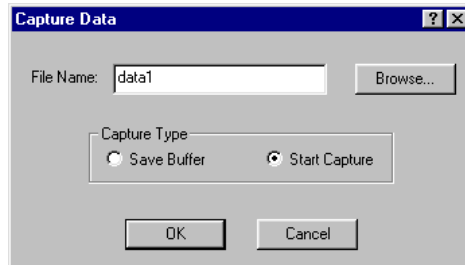

Figure 5-24. Capture Data to a File
1. Click Capture Data. A Capture Data dialog box is displayed (Figure 5-24).